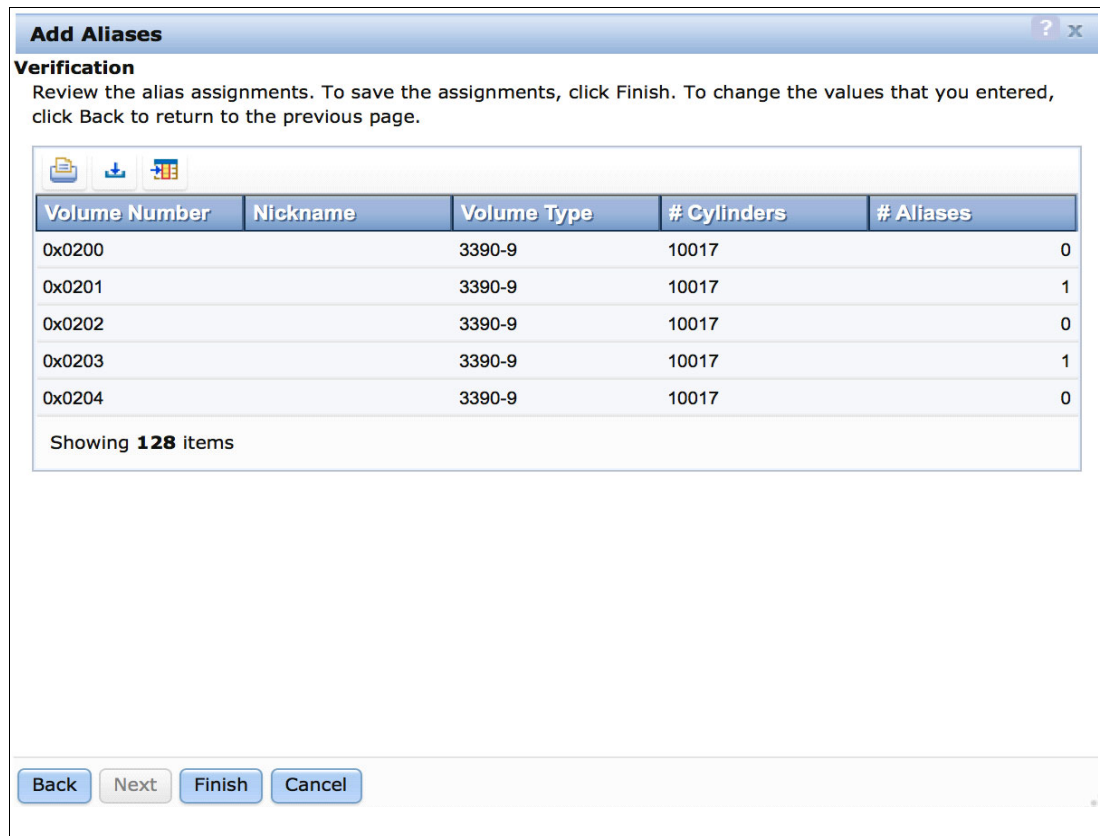

Figure 6-28 Add Aliases Verification panel
3. We select the planned Alias volume number, leave the starting address and order as default, and click **Next**. The Add Aliases Verification panel displays, as shown in Figure 6-28.